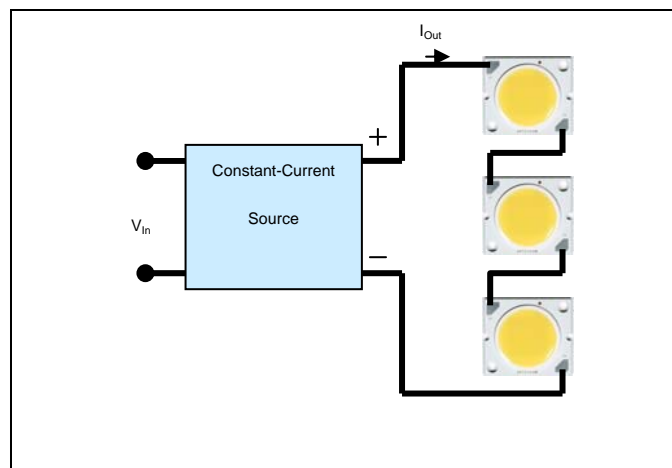

Figure 7: Bridgelux LED Arrays driven in series with a single constant current source
1. When using a single driver with a single constant current output channel, connect the LED Arrays in series to complete the electrical circuit (Figure 7). This arrangement ensures that all LED Arrays will be operated at the same current.